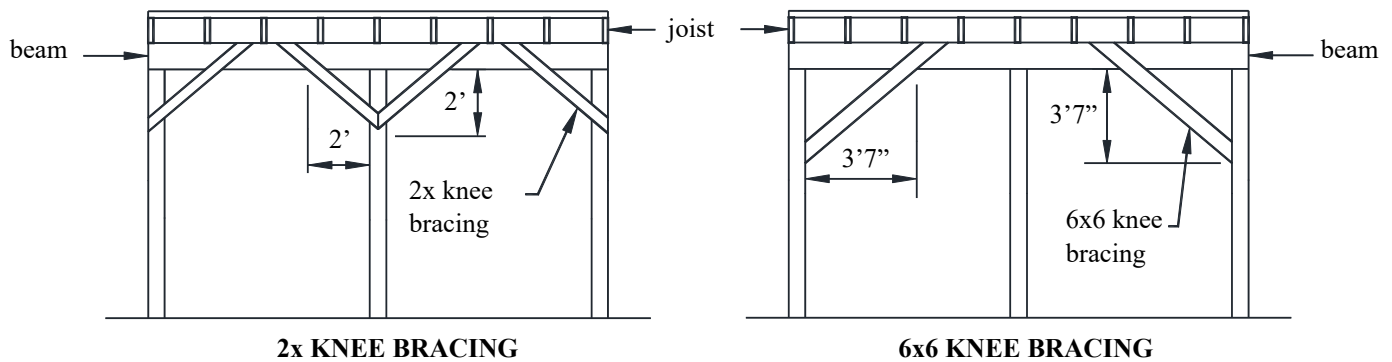

Figure 28 Method-2 Knee Bracing at Post Locations
- Decks shall have 2x knee-bracing installed at each post-beam location or 6x6 knee-bracing at end posts and both sides of every other interior post in accordance with FIGURE 28.